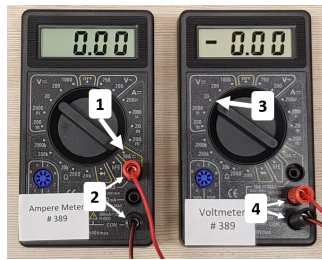

Figure 3 – Ammeter and Voltmeter
12. Voltmeter - the voltmeter function selector should be set to 20 Volts DC (Figure 3).
13. Ammeter - The ammeter function selector should be set to 10 Amperes DC (Figure 3).